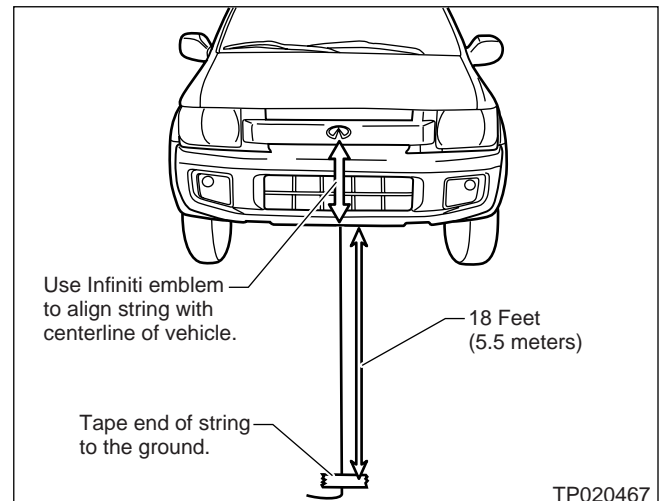

Figure 3
- Pull it out about 18 feet (5.5 meters) in front of the vehicle (see Figure 3).
5. Pull the string straight and align it with the centerline of the vehicle front, then tape the string to the ground (see Figure 3).
NOTE: You can use the Infiniti emblem to align the string with the centerline of the vehicle (see Figure 3).